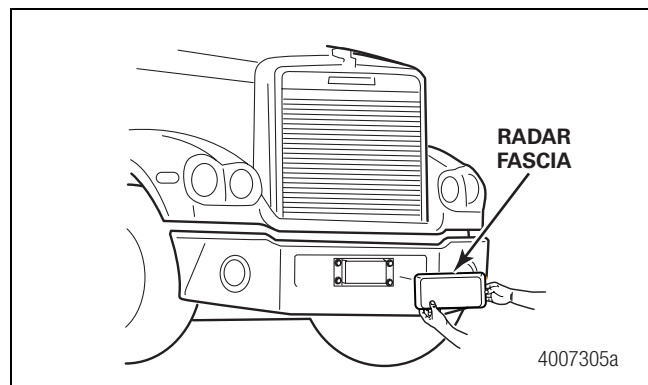

Figure 2.26
3. Remove the radar fascia from the front of the vehicle. Figure 2.26.